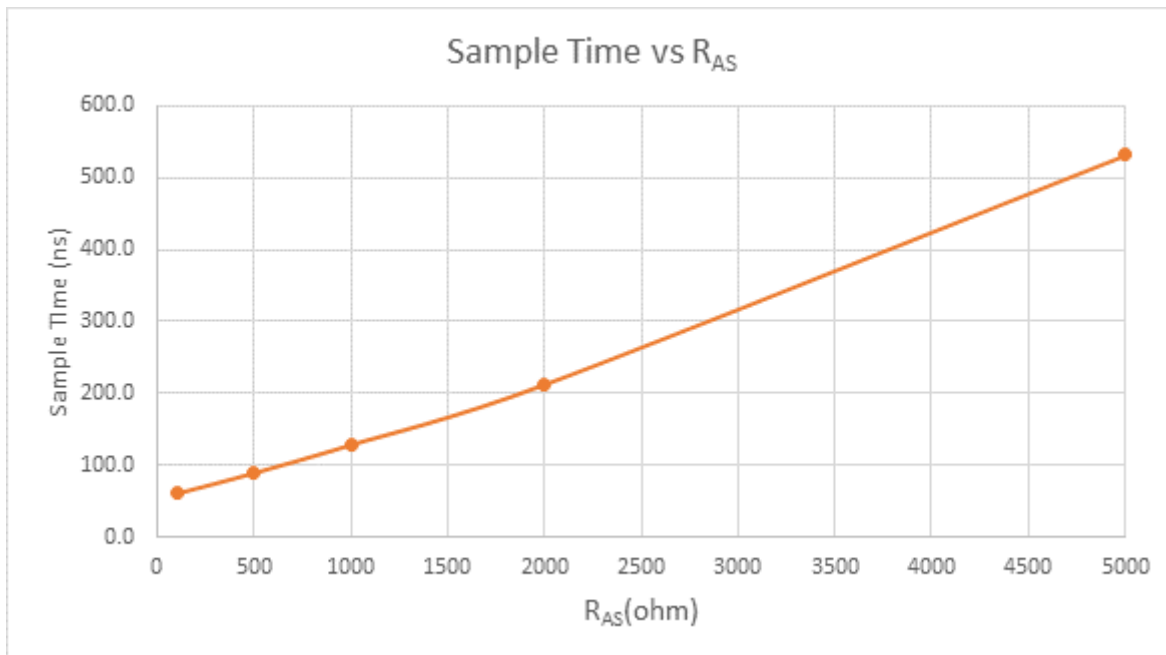

Figure 33. Sample time VS. R_{AS}
³ See Figure 33, "Sample time VS. RAS".
- ⁵ See Figure 33, "Sample time VS. R_{AS} ".